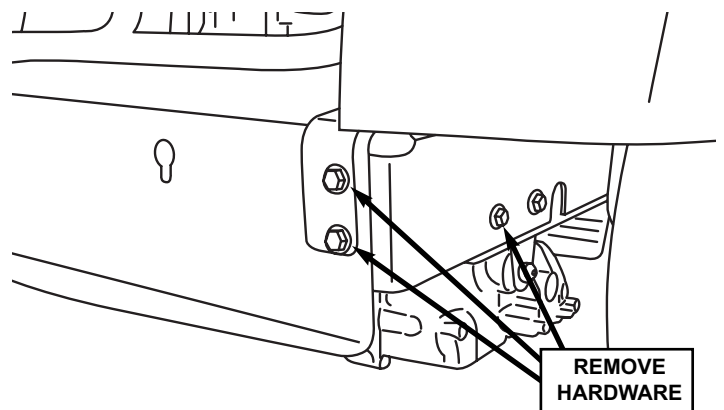

FIGURE 8
a. Remove the three noted bolts and nuts from the right rear of the unit. See Figure 8.